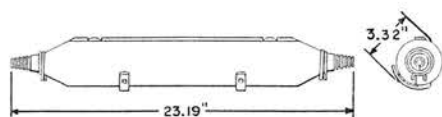

Fig. 1
**4A1:** Used for enclosing straight splices of aerial polyethylene insulated conductor cable of 1-inch diameter and less. On cables 0.6 inch diameter and less, two inner sheath clamps (P-18E113), and a 138C Adapter are required and must be ordered separately. See Fig. 1.